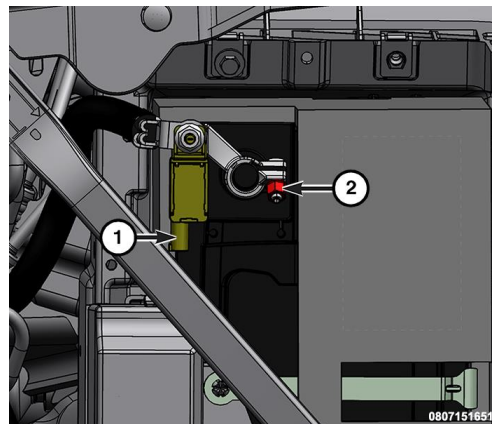

Figure 1 – Intelligent Battery Sensor (IBS)
3. Disconnect the Intelligent Battery Sensor (IBS) wire harness connector (1) (Figure 1).
3. Loosen the ground terminal nut (2) and remove the negative battery cable with IBS from the battery and isolate it (Figure 1).